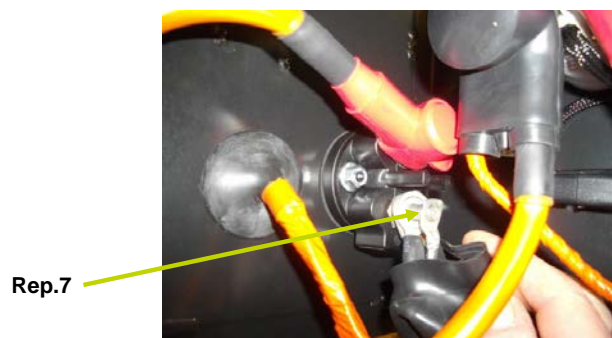

Fig.12
- Crimp terminal onto black wire, wrap wire using orange tape and connect to negative terminal on the circuit breaker **(Rep 7)(Fig.12)**(circuit breaker output).